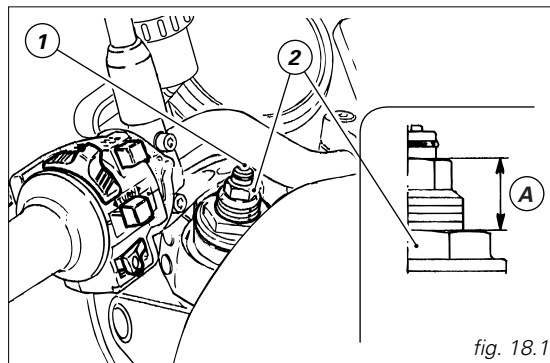

fig. 18.1
- 1) (fig. 18.1) to adjust rebound damping;
- 2) (fig. 18.1) to adjust spring preload;